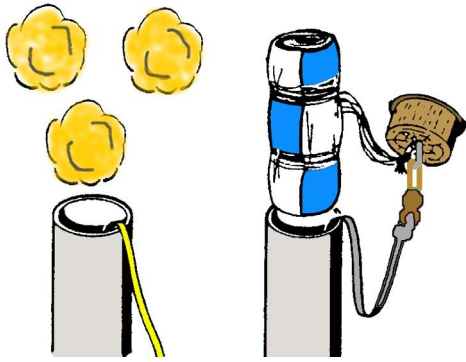

Figure 13
- **Step 29** As shown in Fig. 13, insert about 2" of your preferred flameproof recovery material into the top of the body tube, pushing with a pencil or a wood dowel until it is just above the motor mount. We prefer shredded cellulose insulation over the more traditional wadding sheets. **DO NOT PACK THIS MATERIAL TIGHTLY!** This material has to blow out with the parachute and the shock chord to ensure complete deployment. It is meant to provide a protective gas seal between the motor and the parachute. If it is too tight in the tube, you will suffer recovery failure and likely a damaged model.